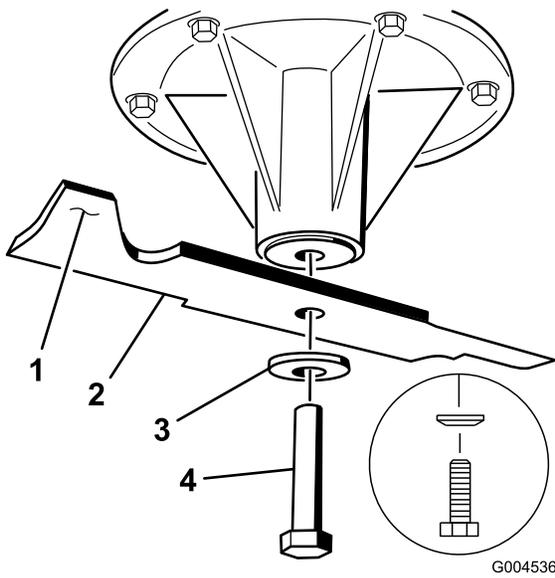
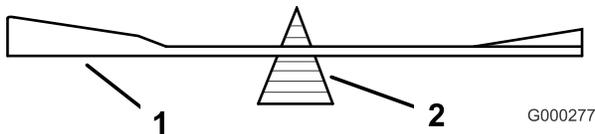

Figure 78
Figure 80
2. Remove the blade bolt, curved washer, and blade from the spindle shaft (Figure 78).
2. Check the balance of the blade by putting it on a blade balancer (Figure 80). If the blade stays in a horizontal position, the blade is balanced and can be used. If the blade is not balanced, file some metal off the end of the sail area only (Figure 78). Repeat this procedure until the blade is balanced.